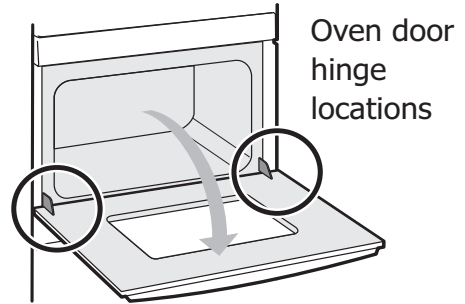

Figure 23: Door hinge location.
3. Fully open the oven door, horizontal with floor (Figure 23).